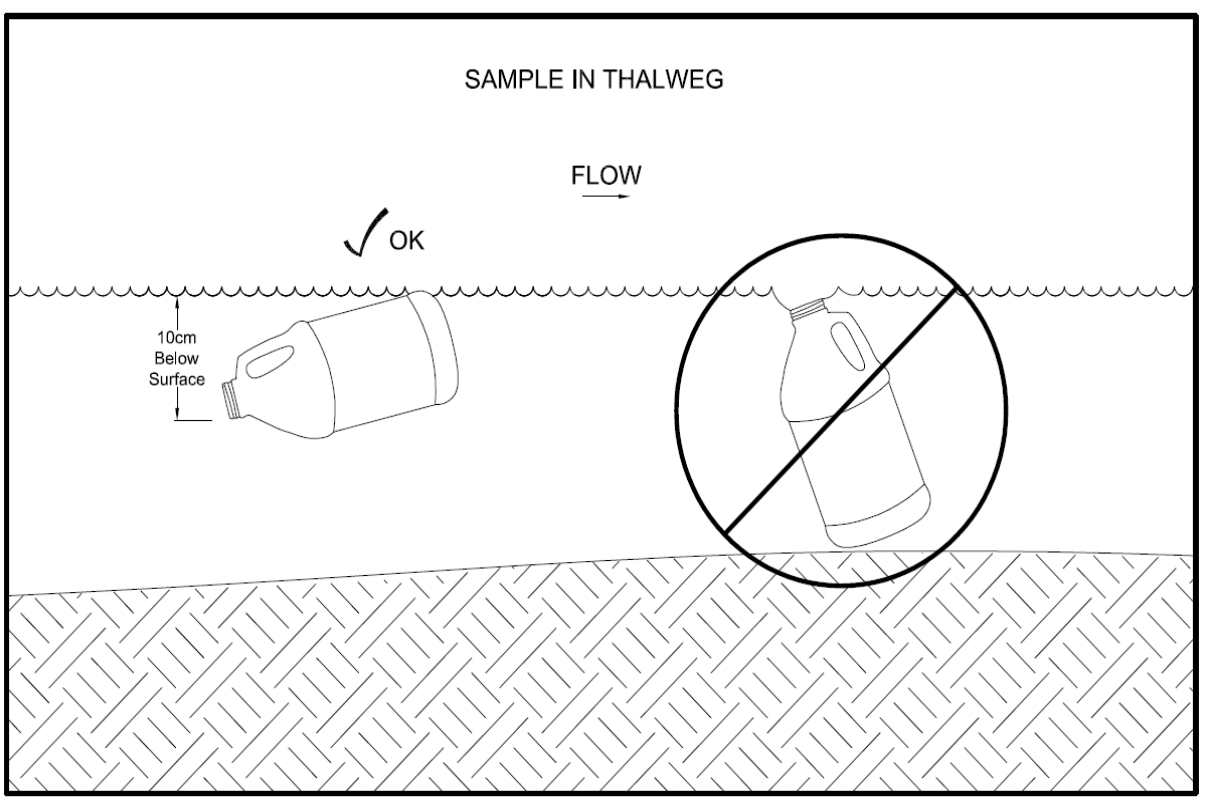

Figure 7. Diagram of proper and poor placement of a water sampling bottle
1. ALWAYS sample in the THALWEG (the deepest location in the stream cross-section) with the bottle opening pointed upstream and into the main flow of water (Figure 7) and several centimeters below the surface (to avoid sampling floating material or surface film). You may step into the stream, but disturb the stream bottom as little as possible as you walk. Take samples UPSTREAM from where you are standing. **Be cautious when sampling. Items can easily fall into stream while bending to sample.**